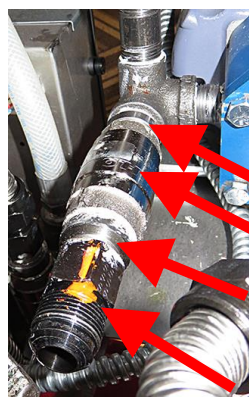

Figure 64
63. Attach the 2 check valve fittings, check valve, and flexline adaptor, removed in steps 57 and 58, to the bottom opening of the elbow as shown (see Figure 64).